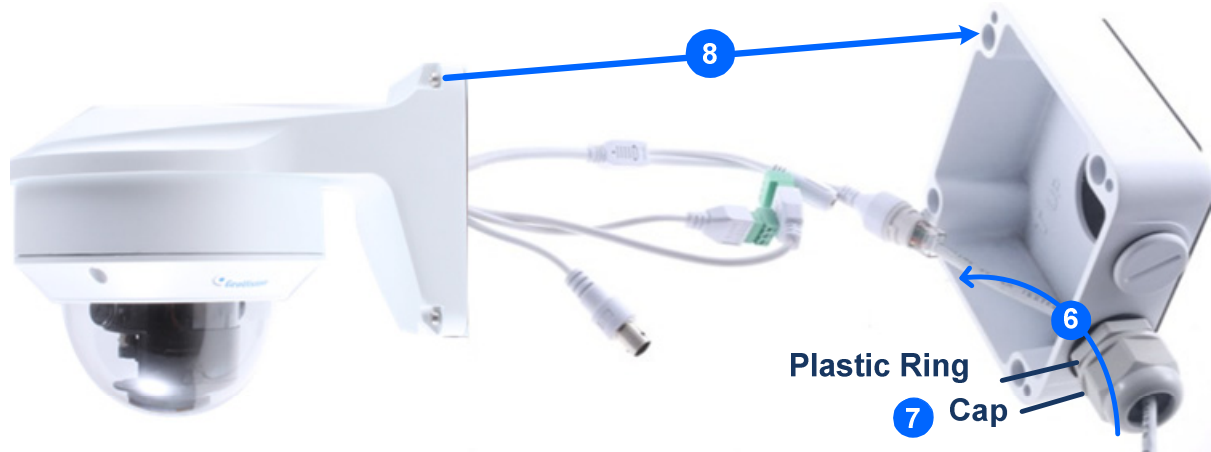

Figure 1-81
6. Thread the Ethernet cable through the PG21 conduit connector and the power box, as shown in No 6, *Figure 1-81*. Then connect the cable to the camera.
7. Rotate the plastic ring to secure the conduit connector to the power box. Screw in the cap shown in No 7, *Figure 1-81*.
8. Screw the wall mount bracket to the power box, as shown in No. 8, *Figure 1-81*.